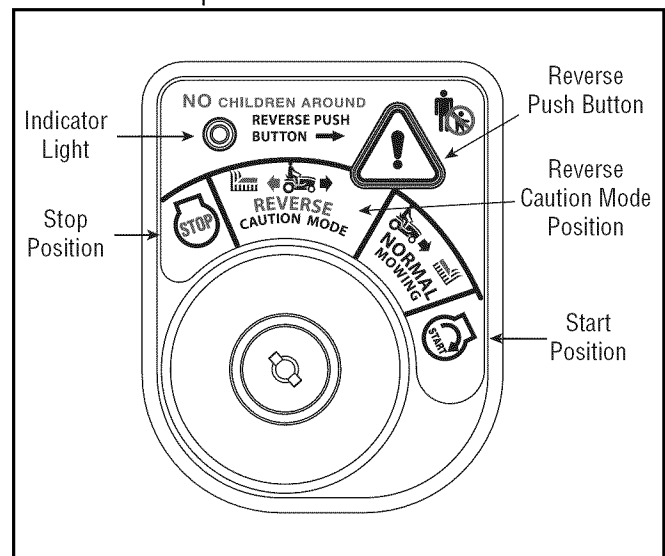

Figure 6
2. Turn the key from the **NORMAL MOWING** (Green) position to the **REVERSE CAUTION MODE** (Yellow) position of the key switch module. See Figure 6.
3. Depress the **REVERSE PUSH BUTTON** (Orange, Triangular Button) at the top, right corner of the key switch module. The red indicator light at the top, left corner of the key switch module will be **ON** while activated. See Figure 6.